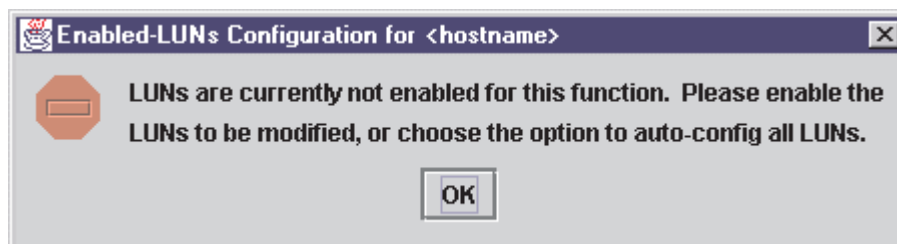

Figure 103. Enabled LUNs Configuration Error dialog window
- Click **Enabled LUNs Only** to configure only those LUNs enabled for load balancing across the paths within this device. If you clicked this option for a device with no enabled LUNs, the message shown in Figure 103 displays. Click **OK**.